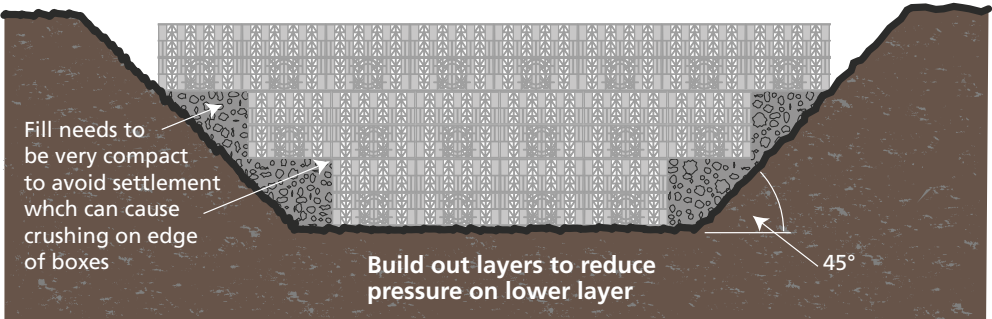

Figure 19
2. Place the cells in a stepped configurations where the tank gets wider from the base to the top (Figure 19).